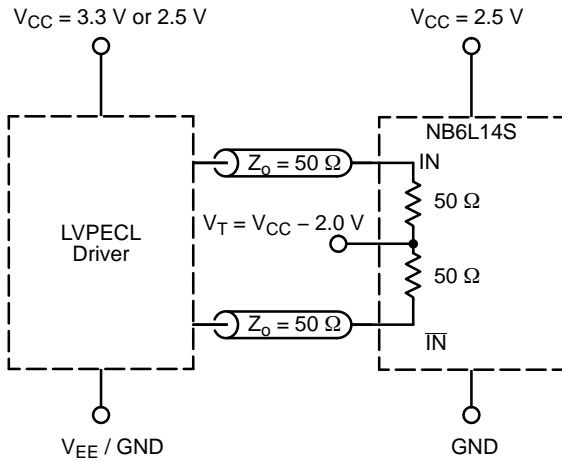

Figure 10. LVPECL Interface
**DIFFERENTIAL INPUTS DRIVEN DIFFERENTIALLY** (Figures 10, 12, 12, 13, 23, and 25)